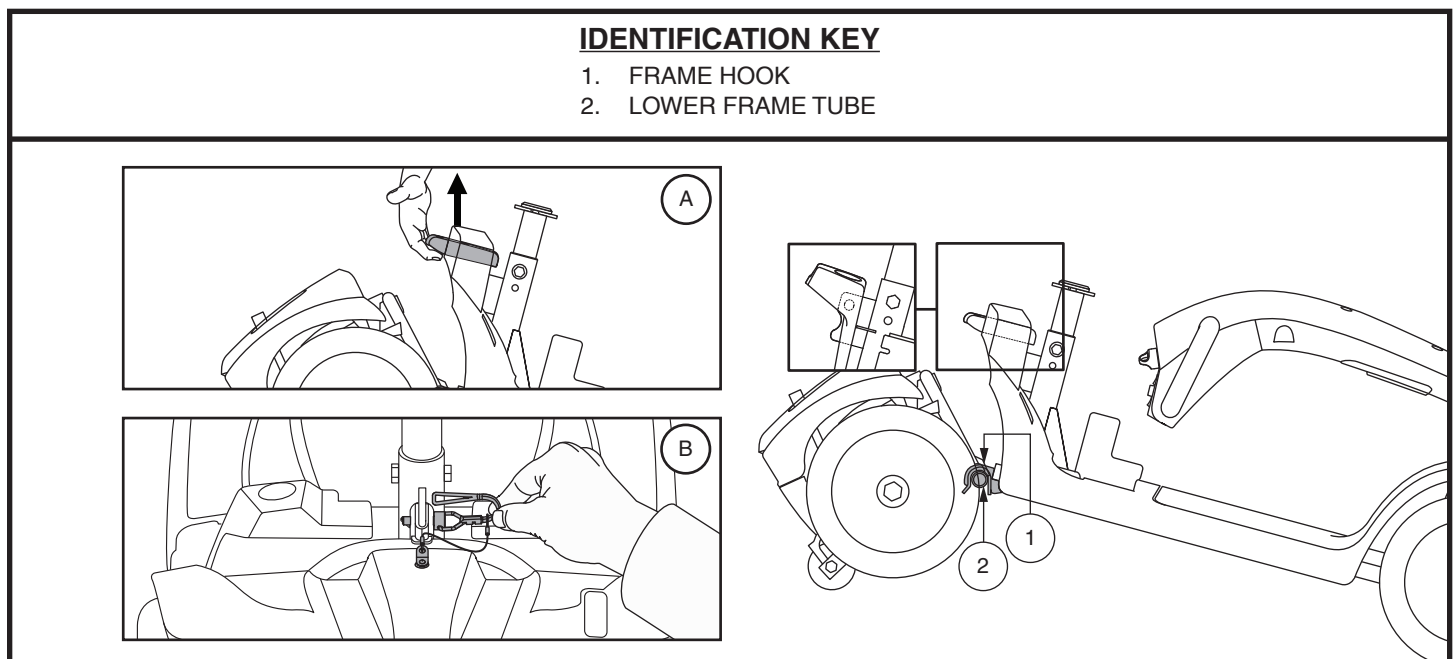

Figure 29. Frame Release Lever (Style A) and Frame Release Lockup Pin (Style B)
3. Remove the frame lockup pin (Model 104 only) See figure 29.
1. Position the front and rear sections of your scooter as shown in figure 29.
2. Use the frame release lever (or the seat post for model 104) to lift the front section as you align the frame hooks of the front section with the lower frame tube of the rear section. See figure 29.